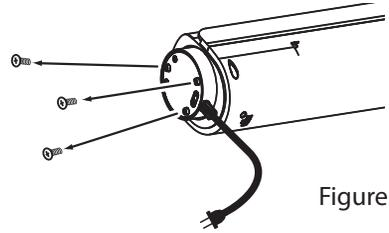

Figure 1
1. Unscrew three (3) locking screws from the bottom of the heater body (Figure 1) and save them.
5. Secure the base to the heater body with the locking screws from Figure 1. Tighten the locking screws firmly with a screw driver. (Figure 5)